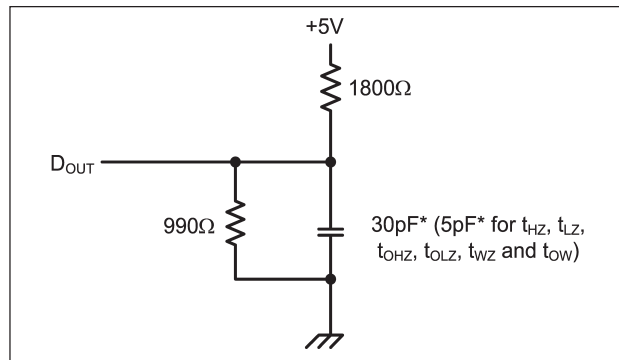

Figure 1. Output Load
4. Transition is measured ± 200 mV from steady state voltage prior to change, with loading as specified in Figure 1. This parameter is sampled and not 100% tested.
Output Load	See Fig. 1 and 2